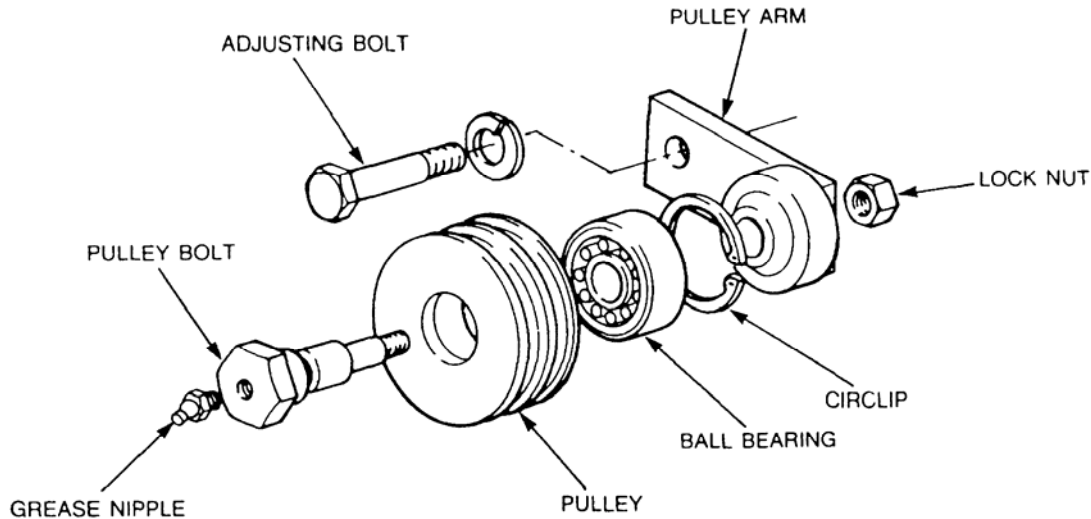

Figure 1 Jockey Pulley Exploded View
- a. Slacken the adjusting bolt on the pulley arm (refer Figure 1).
- d. Slacken the adjusting bolt on the pulley arm (refer Figure 1).